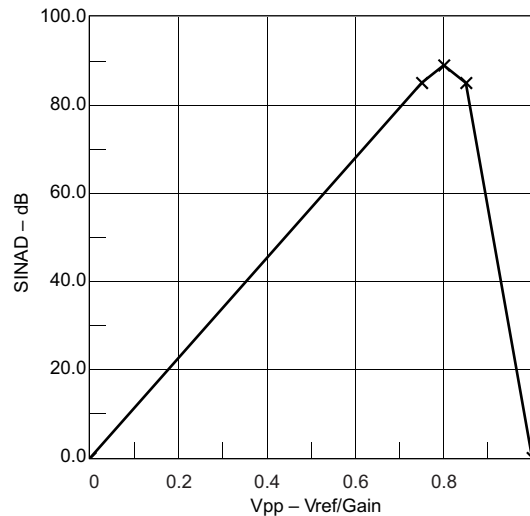

Figure 5-18. SINAD vs V_{pp}
- (1) The following voltages were applied to the SD24_B inputs: $V_{I,A+}(t) = 0\text{ V} + V_{PP} / 2 \times \sin(2\pi \times f_{IN} \times t)$ and $V_{I,A-}(t) = 0\text{ V} - V_{PP} / 2 \times \sin(2\pi \times f_{IN} \times t)$ resulting in a differential voltage of $V_{ID} = V_{I,A+}(t) - V_{I,A-}(t) = V_{PP} \times \sin(2\pi \times f_{IN} \times t)$ with V_{PP} being selected as the maximum value allowed for a given range (according to SD24_B recommended operating conditions) (also see Figure 5-18).